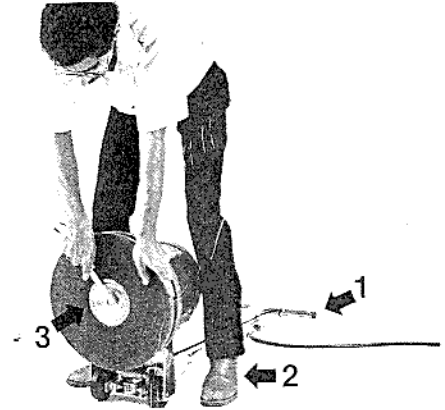

Figure 6
3. Tilt the machine backward until the handle is on the floor (1). See figure 6.
4. Put one foot on each side of the machine (2). See figure 6.
5. Using a 7/8 wrench, remove the nut and the washer that hold the paper holder (3). See figure 6.